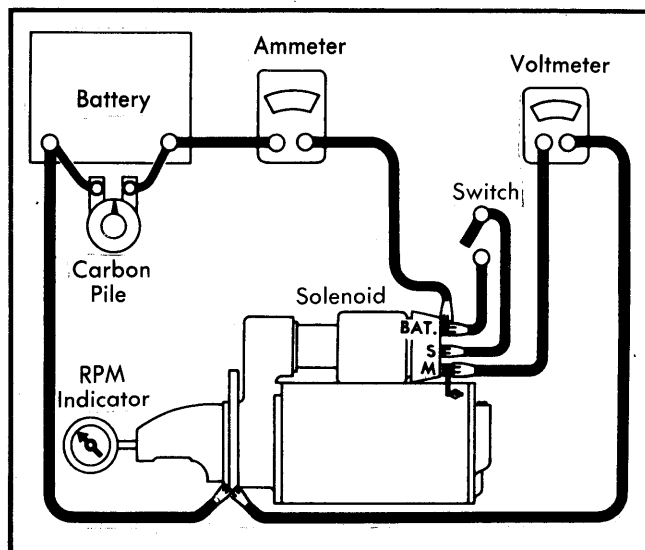

Fig. 2 Starter No Load Connections
1) To perform test, connect test equipment to starter as shown in Fig. 2. Close switch and compare RPM, amperage, and voltage readings with specifications. See chart.